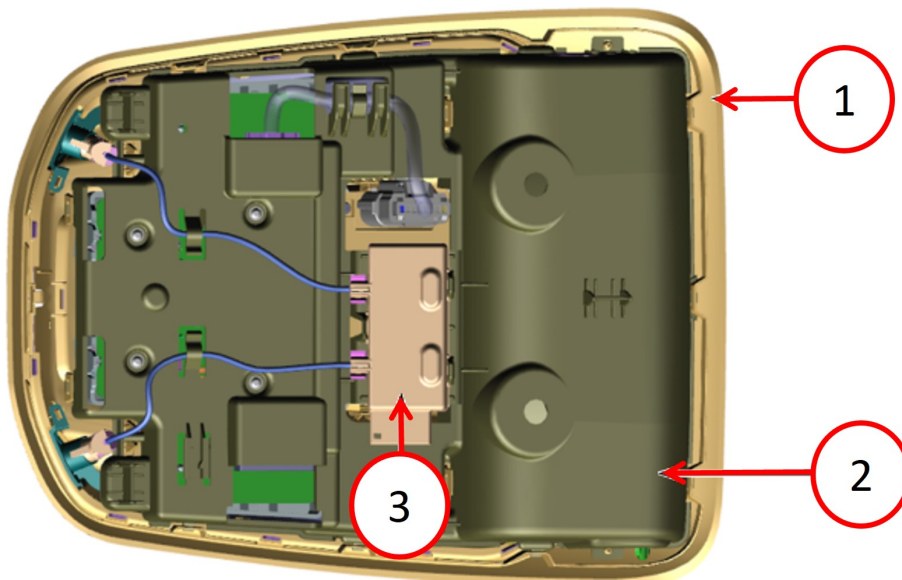

Fig. 1
- Unsnap and remove the main bezel from the backplate (Fig. 1) .
8. Install the main bezel on the backplate (Fig. 1) .